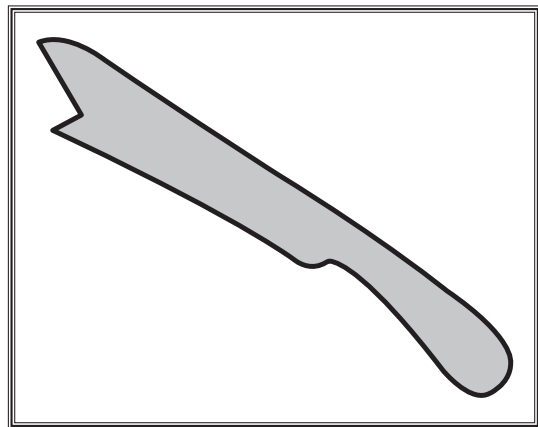

Figure 89. Illustration of a simple push stick.
- **Push Sticks** made from the shop are very popular among table saw owners because they are inexpensive and easy to make. Particularly good are those that keep your hand a safe distance away from the blade, offer stable support and grip, and are comfortable in the hand. Figure 89 shows an illustration of a simple push stick.